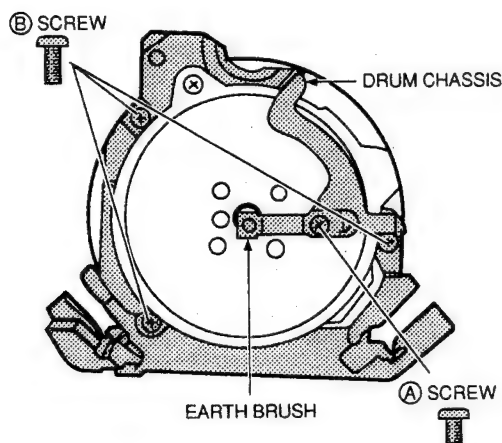

Fig. 3-16
2. Remove the (A) screw and remove the EARTH BRUSH as shown in Fig. 3-16.
3. Remove the three (B) screws and remove the DRUM CHASSIS carefully as shown in Fig. 3-16.